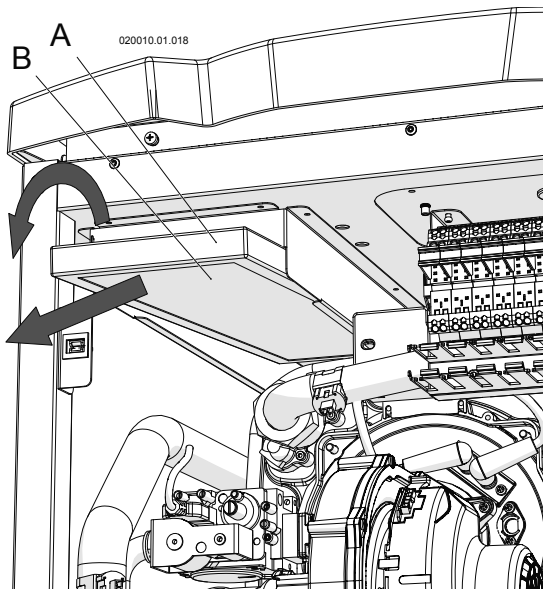

Figure 17-8 - Air intake filter disassembly
- The air filter must be cleaned for the appliance to work properly. Refer to figure 17-8 and proceed as follows: